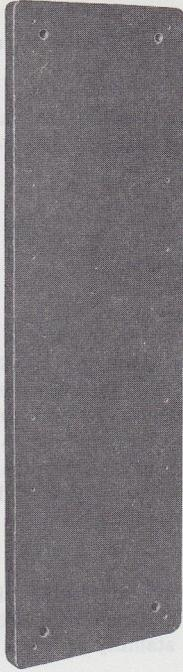

Fig. 22—KS-5796, List 9 Backboard
5.04 The KS-5796, List 9 backboard (Fig. 22) is a backboard with a light olive gray finish.